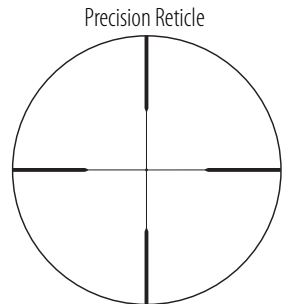

Fig. 3
(1) Focusing
- 1 Look through the eyepiece with your eye positioned about 10 cm (4 in) away from the eyepiece lens to see the Precision Reticle (Fig. 3).